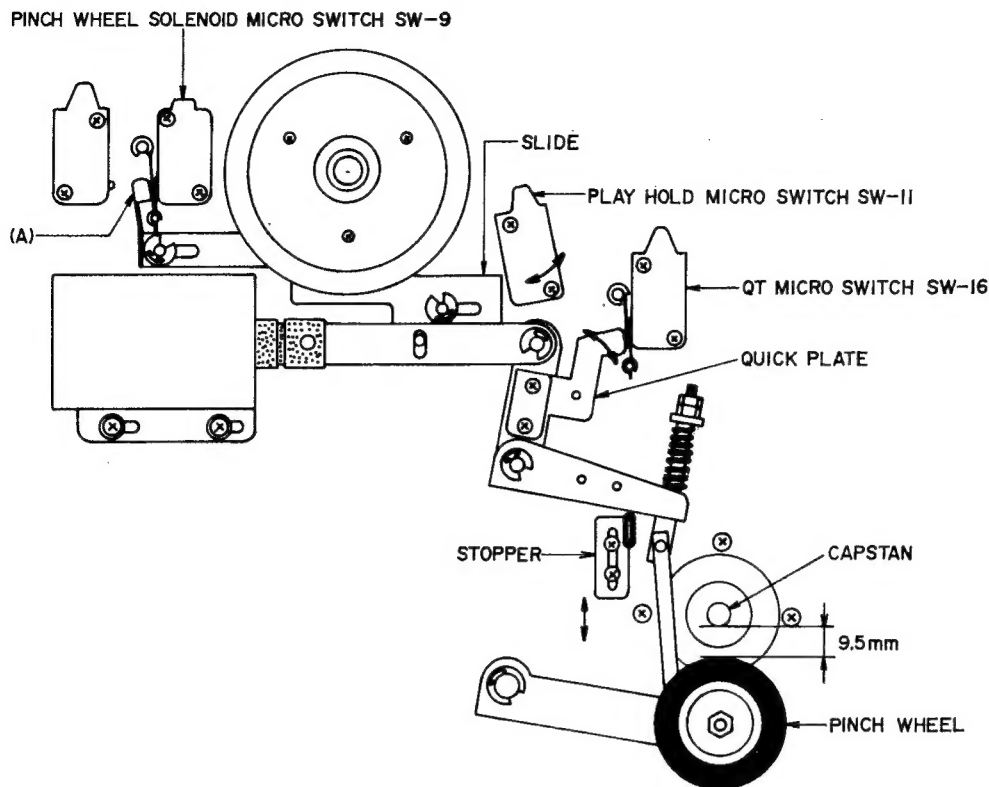

Fig. 3
2. PINCH WHEEL POSITION ADJUSTMENT AT STOP MODE (Refer to Fig. 3)
4. POSITION ADJUSTMENT OF PLAY HOLD MICROSWITCH SW-11 (Refer to Fig. 3)
5. SLIDE ADJUSTMENT (Refer to Fig. 3)
6. POSITION ADJUSTMENT OF QUICK PLATE (Refer to Fig. 3)
7. POSITION ADJUSTMENT OF RECORDING MICROSWITCH SW-5 (Refer to Fig. 3)